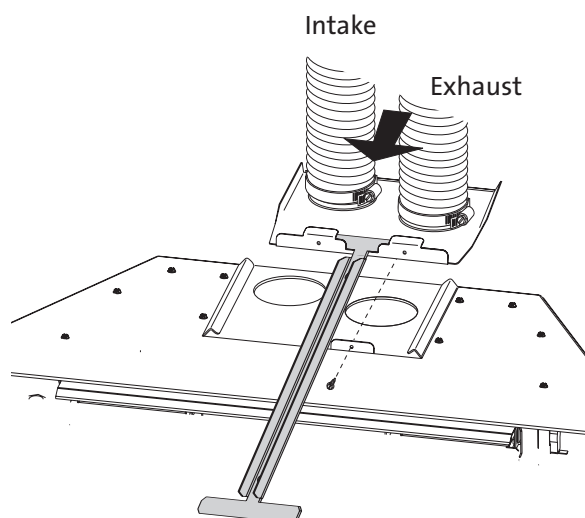

Figure 9. Use the tool to pull the collar plate into place.
2. Remove the retainer screw that attaches the Collar Plate to the cabinet top and slide the plate back off of the cabinet. Secure the flex liners to the appropriate collars on the Vent Collar Plate using sheet metal screws or hose clamps, as shown in fig. 9. Confirm that the liners are not cross-vented.
3. Position the insert, without surround panels, halfway inside the fireplace and engage the Vent Collar Plate within the rails on the cabinet top enough to get it started. Engage one end of the tool over the tabs on the flue collar plate as in fig. 9. Use a striking motion to hammer the collar plate fully forward and secure it to the cabinet flange using the sheet metal screw previously removed.